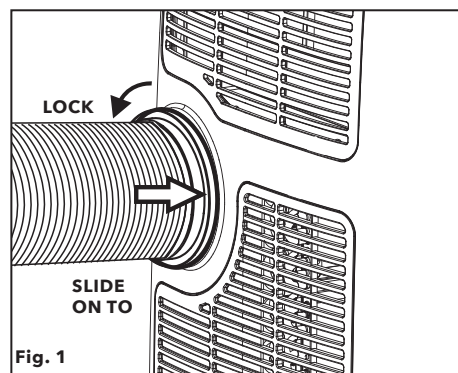

Fig. 1
1. Extend either side of the hose and screw onto the hose inlet on the unit. Hose can turn clockwise or counter-clockwise depending on which end you use (Fig. 1).